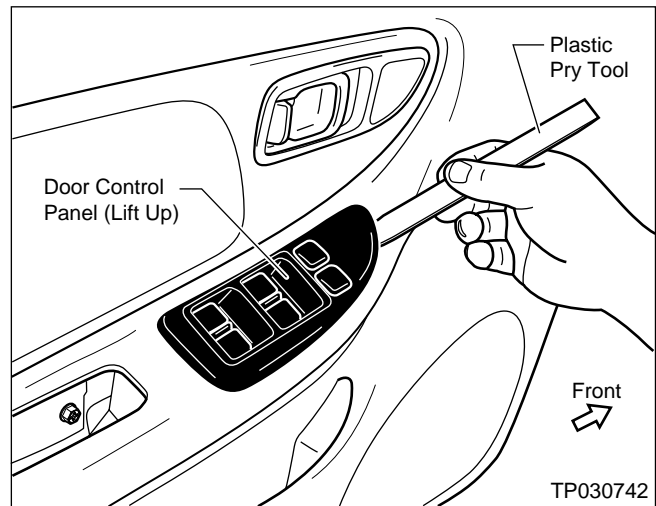

Figure 3
3. Use a Plastic Pry Tool to lift up and remove the Door Control Panel (see Figure 3).